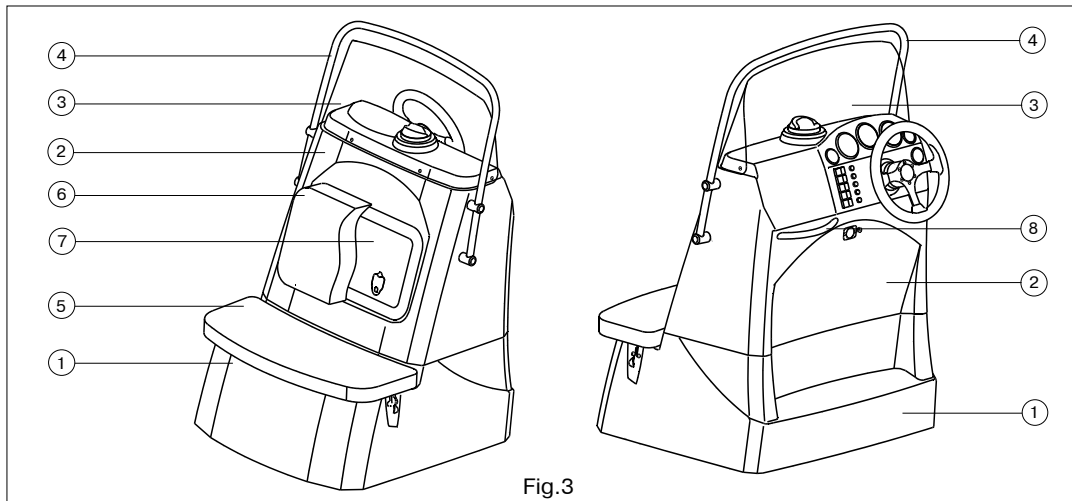
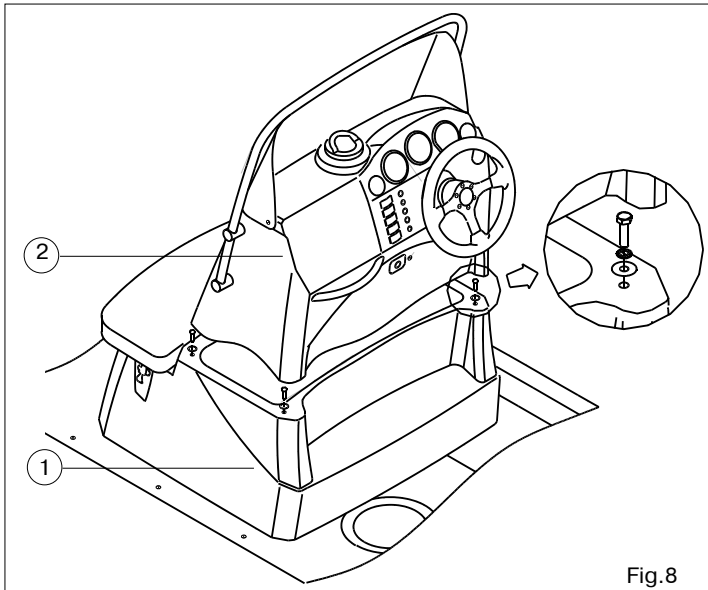

Fig.3
Fig.8
Steering console is located in the central part of the boat. The console consists of the following components (Fig. 3):
- put upper part of the steering console (2) onto console base (1), (Fig. 3 and Fig. 8);